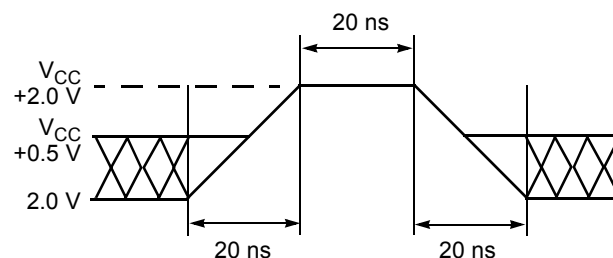

Figure 10. Maximum Positive Overshoot Waveform
1. Minimum DC voltage on input or I/O pins is  $-0.5\text{ V}$ . During voltage transitions, input or I/O pins may overshoot  $V_{SS}$  to  $-2.0\text{ V}$  for periods of up to 20 ns. Maximum DC voltage on input or I/O pins is  $V_{CC} + 0.5\text{ V}$ . See Figure 10. During voltage transitions, input or I/O pins may overshoot to  $V_{CC} + 2.0\text{ V}$  for periods up to 20 ns. See Figure 11.
2. Minimum DC input voltage on pins A9, OE#, ACC, and RESET# is  $-0.5\text{ V}$ . During voltage transitions, A9, OE#, ACC, and RESET# may overshoot  $V_{SS}$  to  $-2.0\text{ V}$  for periods of up to 20 ns. See Figure 10. Maximum DC input voltage on pin A9, OE#, ACC, and RESET# is  $+12.5\text{ V}$  which may overshoot to  $+14.0\text{ V}$  for periods up to 20 ns.